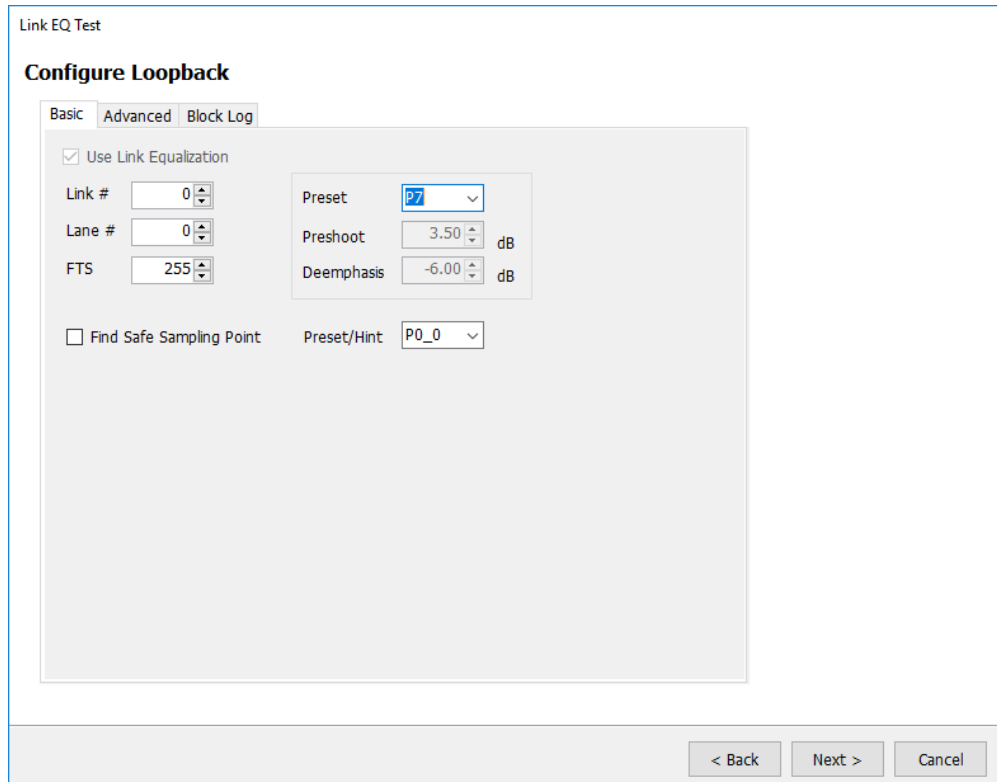
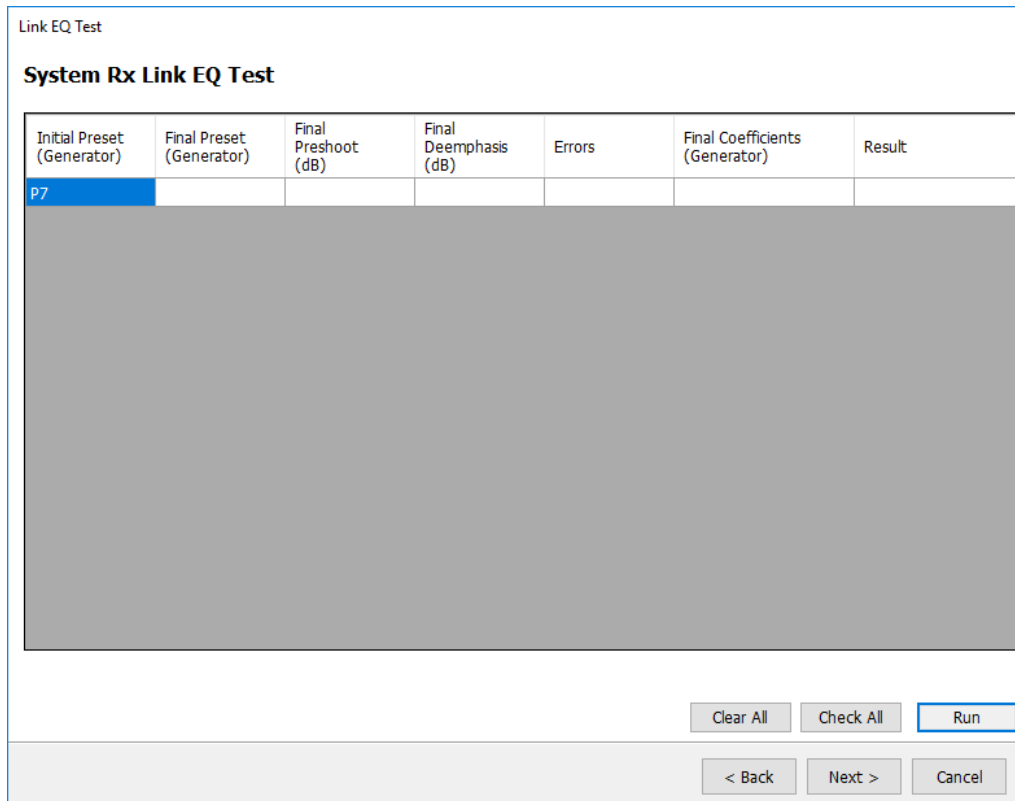

Figure 49
Figure 51
- Click on Run to put DUT into Loopback and get the values in the Measurement Panel as shown in Figure 51, Any Preset (default P7) can be select from Configure Loopback panel as shown in Figure 49 and same will reflect as *Initial Preset (Generator)*. If Step 4 is not enable then Power on the DUT when Red Flash message “Power ON DUT” shows up in Initiate Loopback Panel.